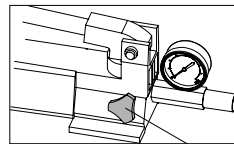

Fig. 17a
2. Close drain valve (2.4b) by turning in a clockwise direction. (Fig. 17a)